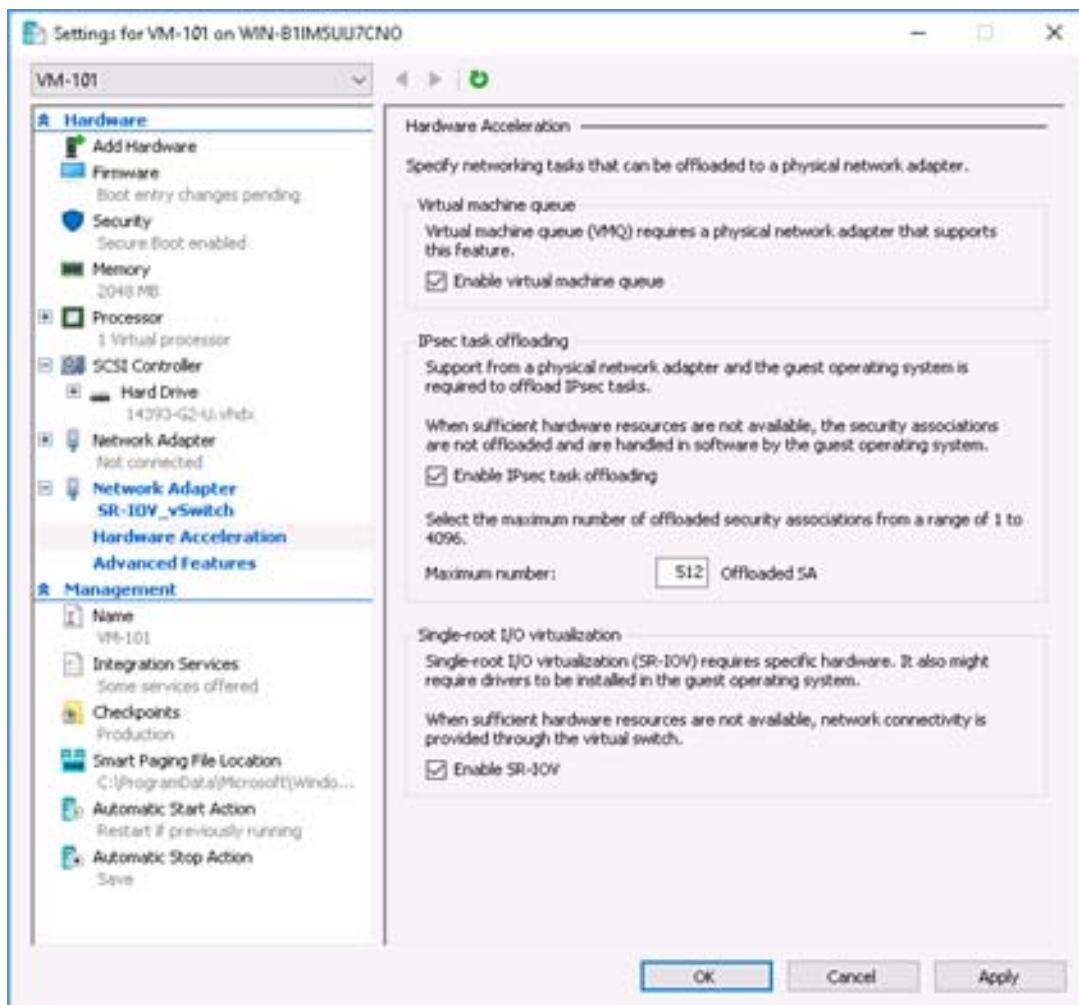

Figure 11-5. Settings for VM: Enabling SR-IOV
12. To create a virtual machine (VM) and export the virtual function (VF) in the VM:
- d. In the Settings for VM <VM_Name> dialog box (Figure 11-5), Hardware Acceleration page, under **Single-root I/O virtualization**, select the **Enable SR-IOV** check box, and then click **OK**.